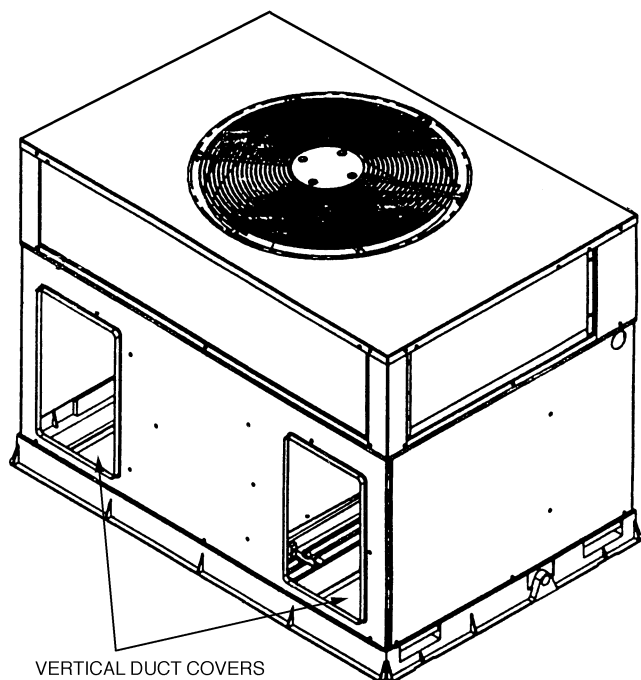

Fig. 10 — Vertical Duct Cover Removed
3. To remove supply duct cover, break front and right side connecting tabs with a screwdriver and a hammer. Push louver down to break rear and left side tabs (Fig. 10).